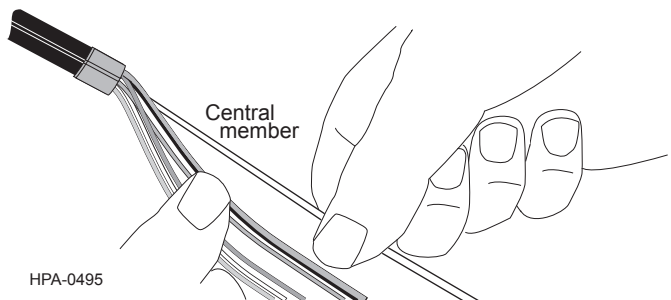

Figure 11
- a. Working from the end of the cable back to the tape wraps, carefully unwind the buffer tubes from around the central member of the cable (Figure 11). Be careful not to bend or kink any of the buffer tubes.